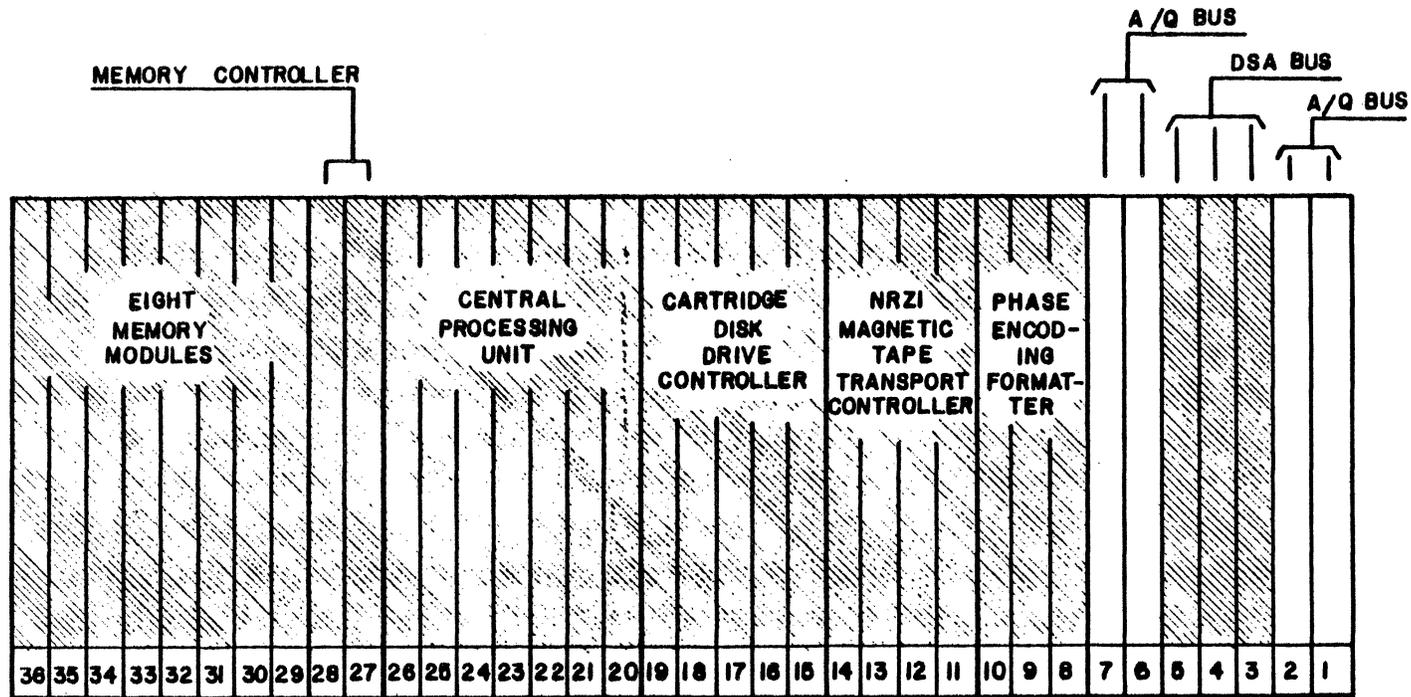

Figure 3-2. Location for Installation of Controller PW Assembly (A/Q Bus)
4. Carefully install the controller card in the assigned A/Q slot. The PWA must slide in smoothly. The slot must be selected according to equipment configuration. Refer to Figure 3-2 and to Computer CE manual (89633300) for card placement.